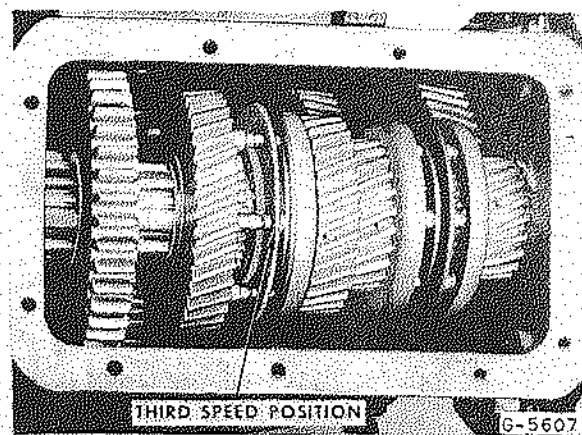

Fig. 7 - Synchronizer Positions With Transmission in Third Gear
The action involved in delivering the torque from the main drive gear to the mainshaft third speed gear is much like the action described previously for the second speed gear except that the sliding clutch (29, Fig. 1) is moved forward (Fig. 7) against the three pins extending from the inner stop ring (30). The inner stop ring is moved against the outer stop ring (31) which is constantly meshed with the third speed gear (32). As soon as the sliding clutch and the third speed gear are turning the same speed, the shift fork pressure completely engages the sliding clutch with the third speed gear.